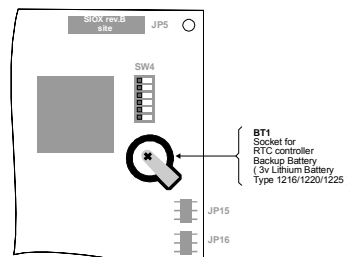

Fig.2-26. RTC controller power backup battery socket at *TORNADO-E64xx* board.
TORNADO-E64xx DSP controllers provide on-board BT1 socket (fig.2-26, fig.2-2c and A-1c) for external RTC power backup battery, which is used to automatically write protect internal RTC contents and keep real-time clock running in case on-board +5v power will get out of tolerance.
- *TORNADO-E64xx*: if required, install or change RTC controller power backup battery in BT1 on-board socket in order to ensure that RTC controller has valid backup power and real-time clock is running (refer to section 2.8 and fig.2-26)